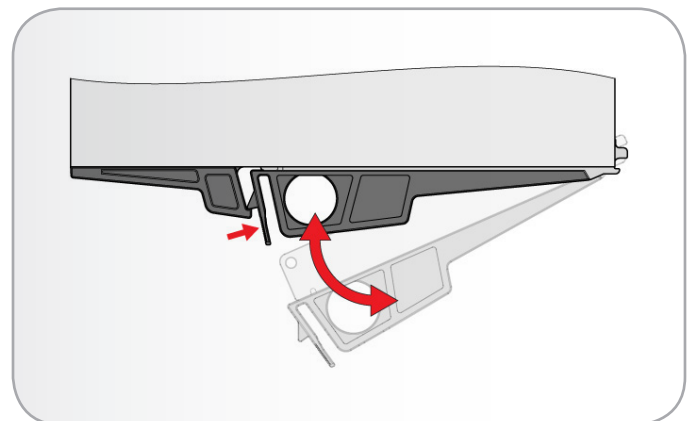

Fig. 43 - Securing the Module Latch Handle
3. Secure the module by closing the latch. A click should be heard as the latch locks into position (Fig. 43).